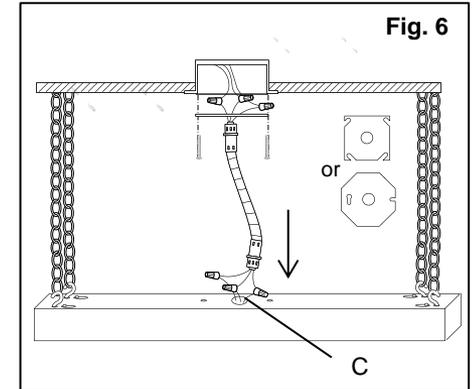

Fig. 6
1. Connect the fixture wires to the wires at one end of the **whip** using **wire nuts**. Tuck the connections inside the fixture. (Fig. 6)
2. Attach the **fitting** at the end of the whip to the **knockout hole** (C). (Fig. 6)
3. Attach the **outlet box cover** to the fitting at the opposite end of the **whip**. (Fig. 6)
4. Connect the supply wires to the remaining wires on the **whip**. Tuck the connections into the outlet box. (Fig. 6)
5. Mount the **outlet box cover** to the outlet box using **mounting screws**. (Fig. 6)